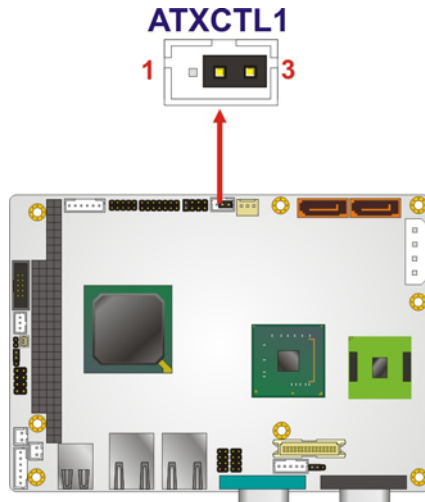

Figure 4-2: AT/ATX Power Select Jumper Location
- Jumper Location:** See **Figure 4-2**